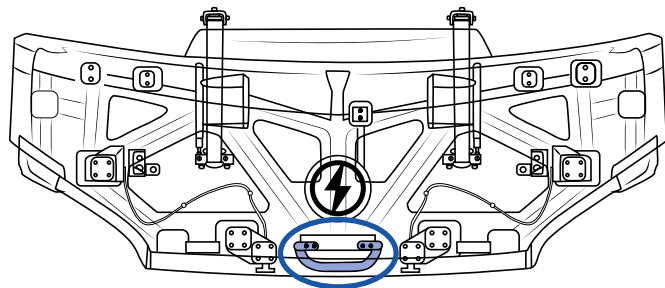

Figure 14 - Location of handle under the hood
3. Lift the hood and locate the handle located in the centre (**Figure 14**), at the far edge of the hood.